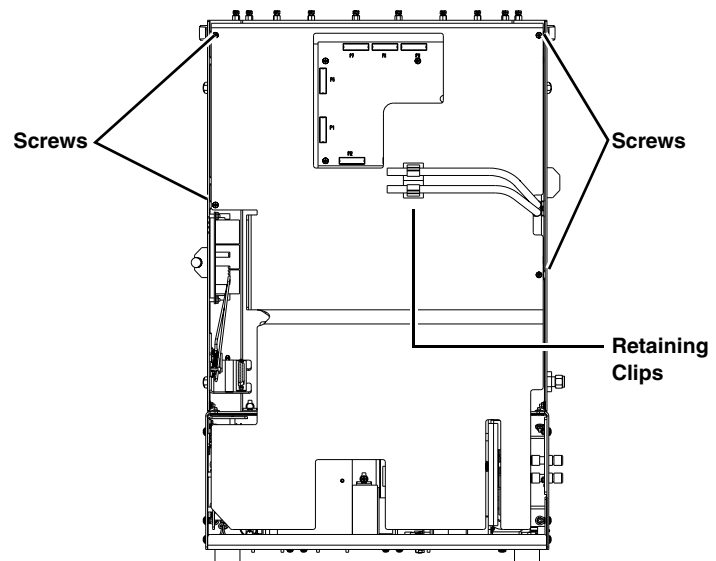

Figure 2-3 Removing the column module back plate
1. Release the two sets of tubes from the retaining clips (Figure 2-3).
2. Remove the four screws securing the back metal plate on the column module (Figure 2-3). Then, lift and remove the plate.
8. Before completing the remaining cable connections, replace the back metal plate on the column module. The openings in the plate will fit around the connections made in steps 3 through 7. Secure the plate with the four screws (Figure 2-3). Then, reattach the tubing to the retaining clips.